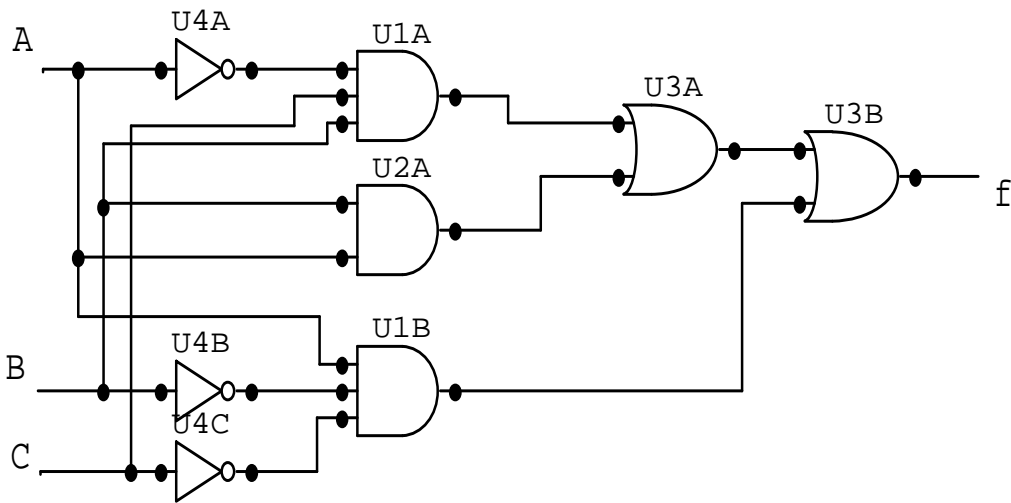

Figure 2.1: Logic Gate Implementation of an SOP Expression using NOT, AND, and OR Gates
1. Use Multisim to capture the schematics of Figure 2.1 and 2.2. Use components of your choice, and verify the operation of your circuit by simulating your circuit and developing a Truth Table. Label your schematic with the date and your name. Print it. Bring a copy of the printed schematic to the Laboratory to verify your work.